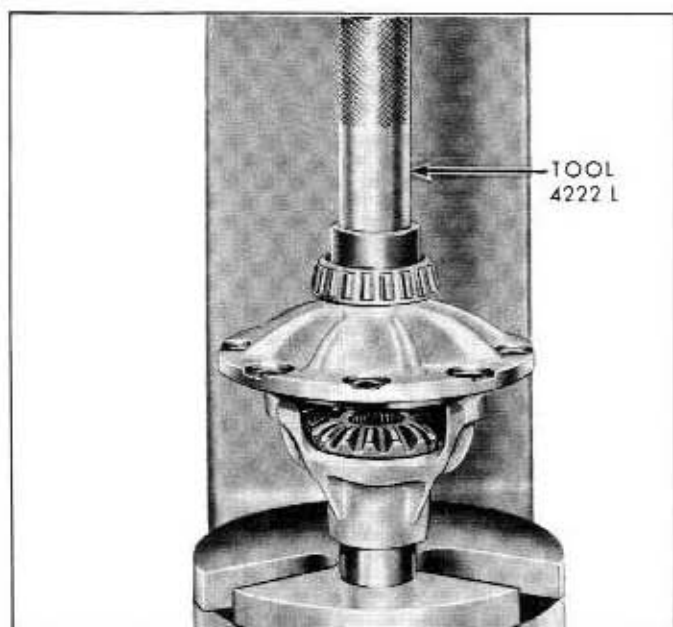

Fig. 4-30—Installation of Differential Bearing Cones—(60C-5211)
7. Press the differential bearing cones onto the differential assembly with Tool 4222-L as shown in figure 4-30.